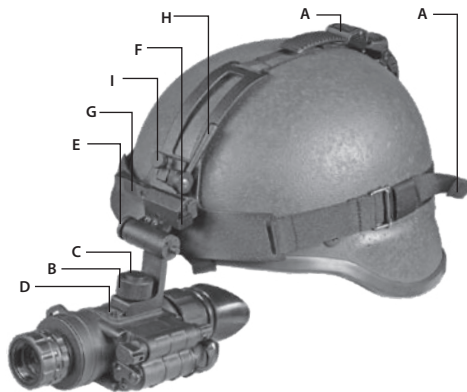

FIGURE 3-3. MOUNTING THE SIRIUS TO A HELMET
1. Attach the mount to the helmet as shown in Figure 3-3.
2. Adjust and tighten the straps (A).
3. Loosen the screw (B). With the button (C) pushed down, insert the Sirius rail into the guide (D) of the helmet mount bracket. Tighten the screw (B).
5. Push the button (F) and move the unit along the slide-rail (G) until the most comfortable position is reached.
6. Adjust the mount for comfortable using. Loosen the screw (B) and move the unit along the guide (D) for eye relief adjustment. Turn the lever (H) and move the unit along vertical slide-rail until the most comfortable vertical position is reached.
7. The helmet mount has a flip-up mechanism. Push the button (E) of the mount bracket and lift the unit up until it reaches its top position. Once it reaches this position, the unit will turn off automatically.
8. Push the same button (E) to lower the Sirius into the proper viewing position. Turn the unit on to proceed with your mission.
In Figure 3-3, the Sirius is shown in the correct position for the left eye. To readjust the Sirius for the left eye, reverse its positioning and reinstall it on the helmet mount bracket (see Figure 3-3). Use the second unit rail located on the opposite side of the unit. Push the button (F) and move the unit along the slide-rail (G) until the most comfortable position is reached.